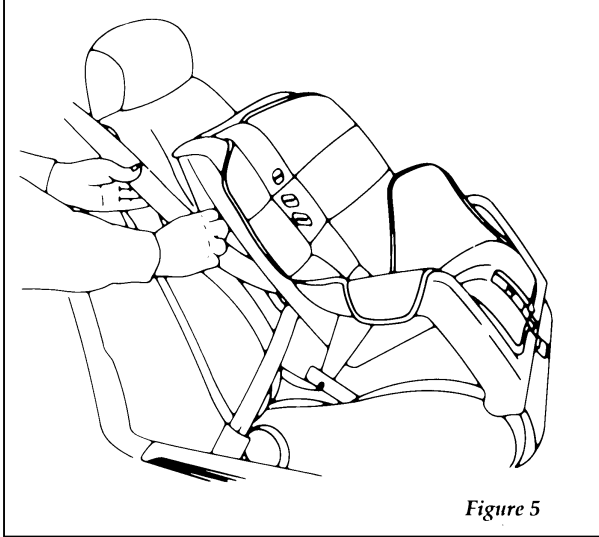

Figure 5
5. Allow the belt to retract. Pull up on the shoulder webbing. A clicking sound will be heard as the belt retracts. This indicates the retractor is in the automatic locking mode. Push down on the child seat while you pull up on the belt to remove any slack in the belt. See Figures 5 and 6.